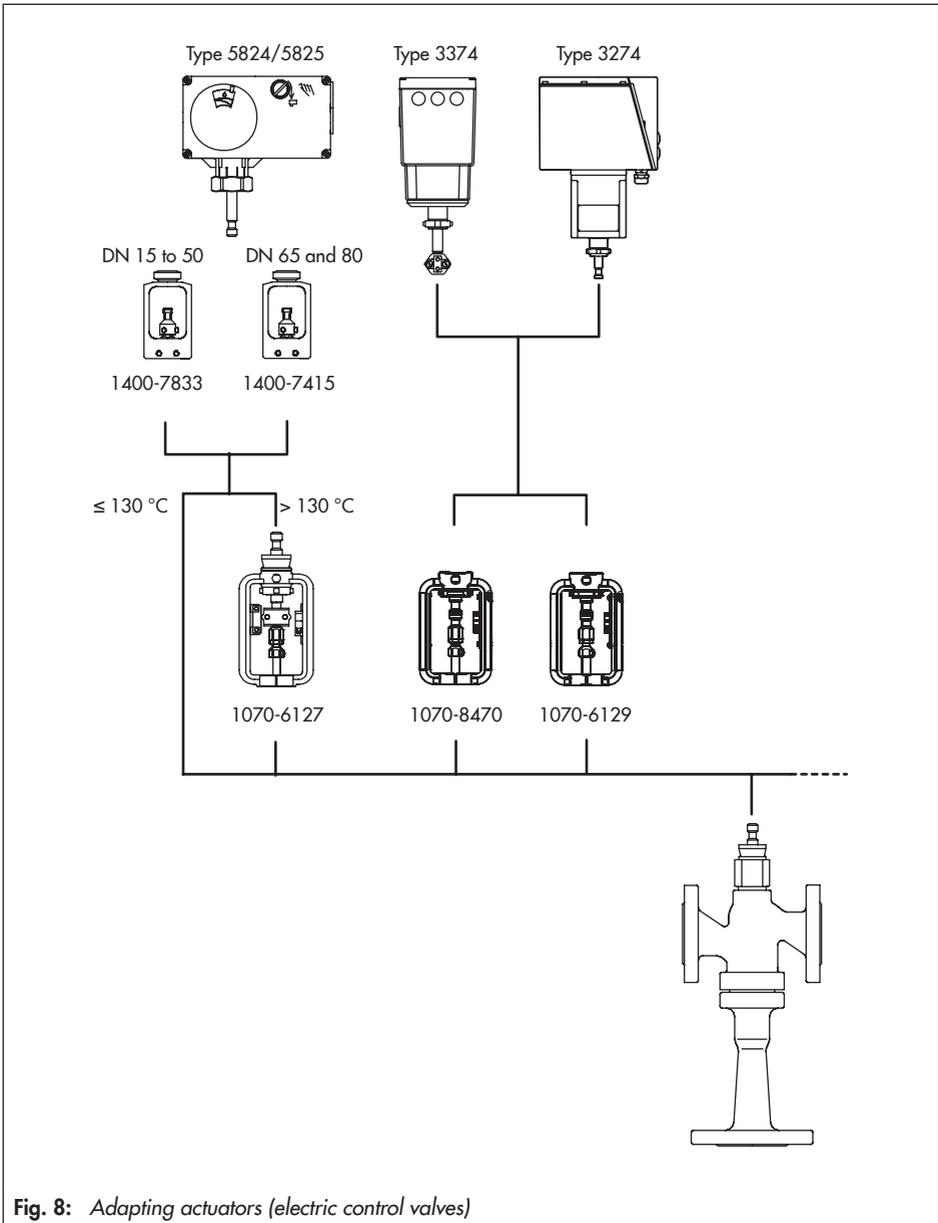
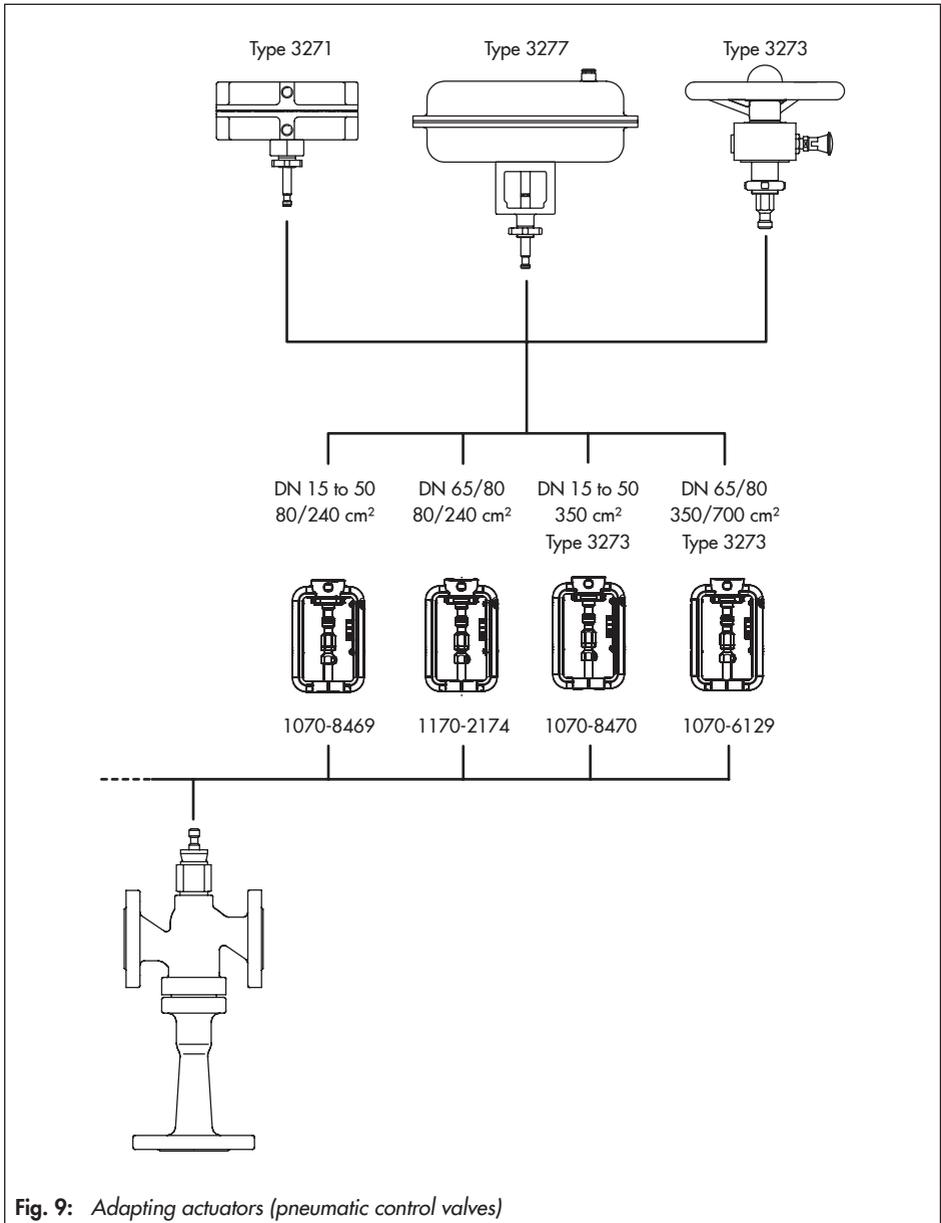

Fig. 8: Adapting actuators (electric control valves)
Fig. 9: Adapting actuators (pneumatic control valves)
The actuator is mounted onto the valve using a yoke (which yoke is to be used depends on the actuator and the nominal size of the valve). Refer to Fig. 8 and Fig. 9.
The actuator is mounted onto the valve using an adapter (9) (which adapter is to be used depends on the nominal size). Refer to Fig. 8.
1. Place adapter (9) on the valve body (1) and fasten using the threaded pins.
3. Press the plug together with the plug stem (6) firmly into the seat.
4. Place actuator (8) on the adapter (9) and fasten together using the coupling nut (8.2) (tightening torque: 20 Nm).
6. Position clamps of the stem connector (7) and screw them tight.